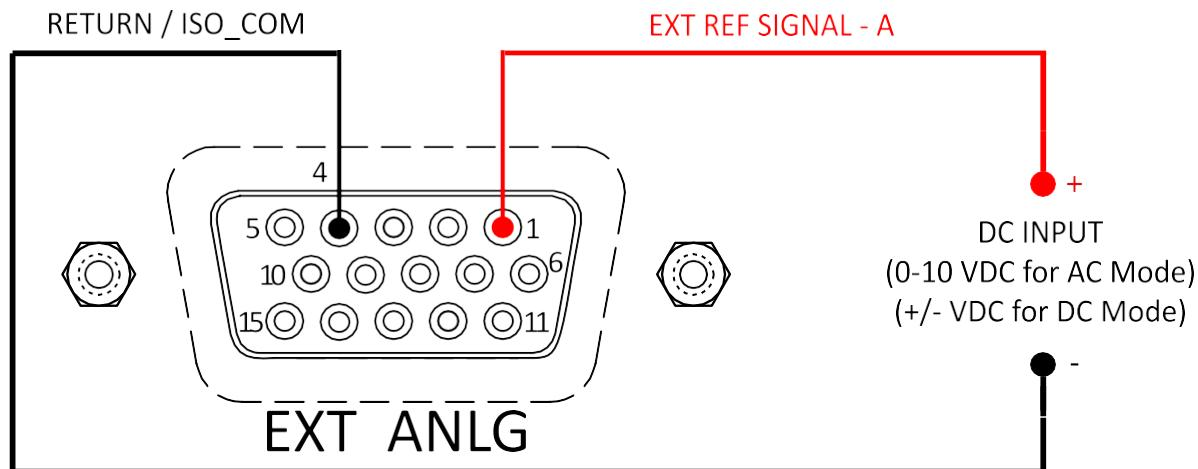

Figure 4-17: External Analog Programming – Reference DC Source for Phase A
- Pin 1 (External Reference Signal – Phase A) and Pin 4 (Return / ISO_COM) are to be connected to the DC source to vary the output voltage for Phase A, refer to Figure 4-17.